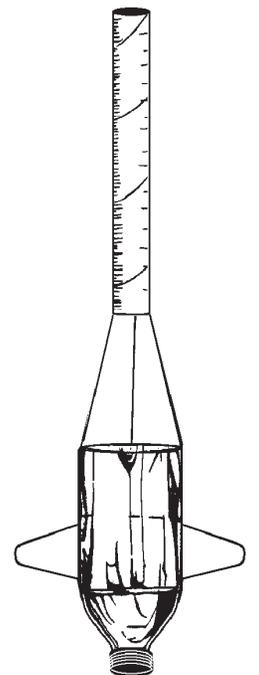

Figure 16
6. Slide the transition cone over the body tube that is connected to the bottle (Figure 16). It should fit snugly. If it does not fit snugly, spot glue the cone to the body tube using the low temp glue gun. Smooth the glue as much as possible. Allow the glue to cool before finishing the R2K.